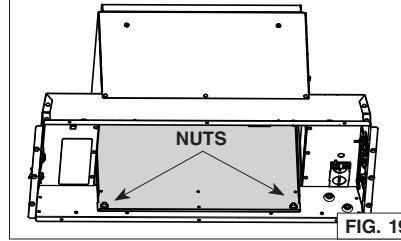

FIG. 19
8. From inside the unit, detach the back plate (grey part in FIG. 19) by removing its both retaining nuts using 3/8" diameter socket. Set aside the nuts and plate.